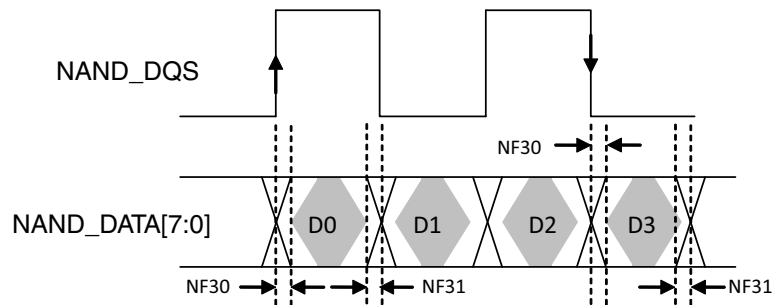

Figure 31. NAND_DQS/NAND_DQ Read Valid Window
For DDR Source sync mode, Figure 31 shows the timing diagram of NAND_DQS/NAND_DATAxx read valid window. The typical value of tDQSS is 0.85ns (max) and 1ns (max) for tQHS at 200MB/s. GPMI will sample NAND_DATA[7:0] at both rising and falling edge of an delayed NAND_DQS signal, which can be provided by an internal DPLL. The delay value can be controlled by GPMI register GPMI_READ_DDR_DLL_CTRL.SLV_DLY_TARGET (see the GPMI chapter of the i.MX 6Solo/6DualLite reference manual). Generally, the typical delay value of this register is equal to 0x7 which means 1/4 clock cycle delay expected. But if the board delay is big enough and cannot be ignored, the delay value should be made larger to compensate the board delay.
- ⁷ Shown in Figure 31, NAND_DQS/NAND_DQ Read Valid Window.
For DDR Toggle mode, Figure 31 shows the timing diagram of NAND_DQS/NAND_DATA_{xx} read valid window. The typical value of tDQSQ is 1.4 ns (max) and 1.4 ns (max) for tQHS at 133 MB/s. GPMI will sample NAND_DATA[7:0] at both rising and falling edge of a delayed NAND_DQS signal, which is provided by an internal DPLL. The delay value of this register can be controlled by GPMI register GPMI_READ_DDR_DLL_CTRL.SLV_DLY_TARGET (see the GPMI chapter of the i.MX 6Solo/6DualLite reference manual). Generally, the typical delay value is equal to 0x7 which means 1/4 clock cycle delay expected. But if the board delay is big enough and cannot be ignored, the delay value should be made larger to compensate the board delay.